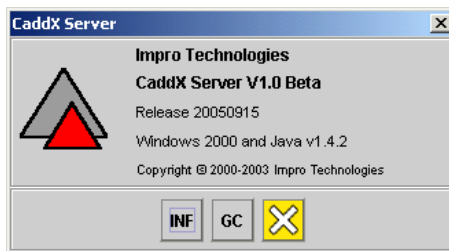

Figure 11 : Help Menu CaddX Server dialog
- [2] Select the About option. The CaddX Server dialog shown in Figure 11 will be displayed.